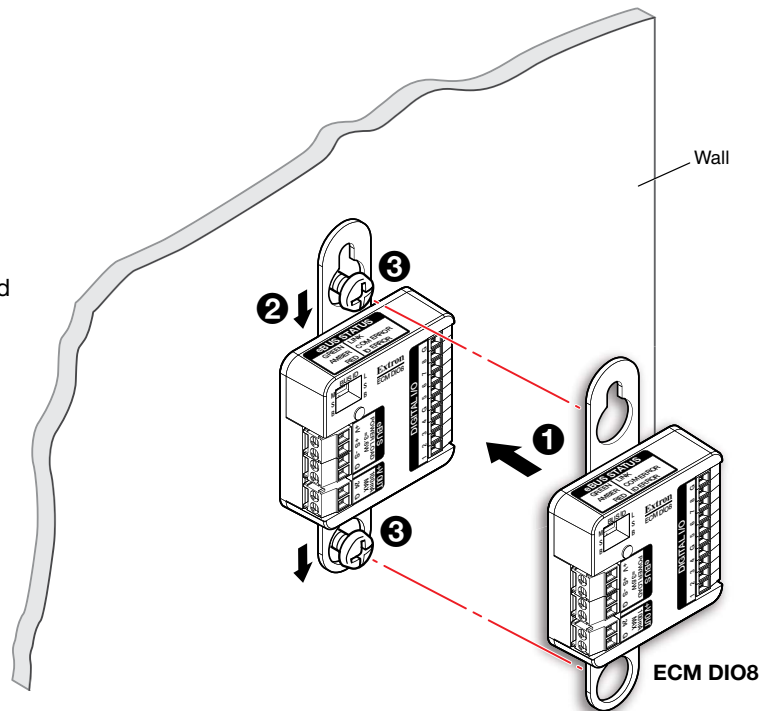

Figure 9. Mounting the ECM DIO8 to a Flat Surface
4. Place the ECM DIO8, with the mounting bracket attached, against the mounting surface and mark the position of the holes (see figure 9, ❶).
7. Fit the mounting bracket over the screw heads and slide the device up or down so that the screw is seated in the narrow slot of the bracket (❷).
8. Tighten the screws to secure the ECM DIO8 in place (❸).